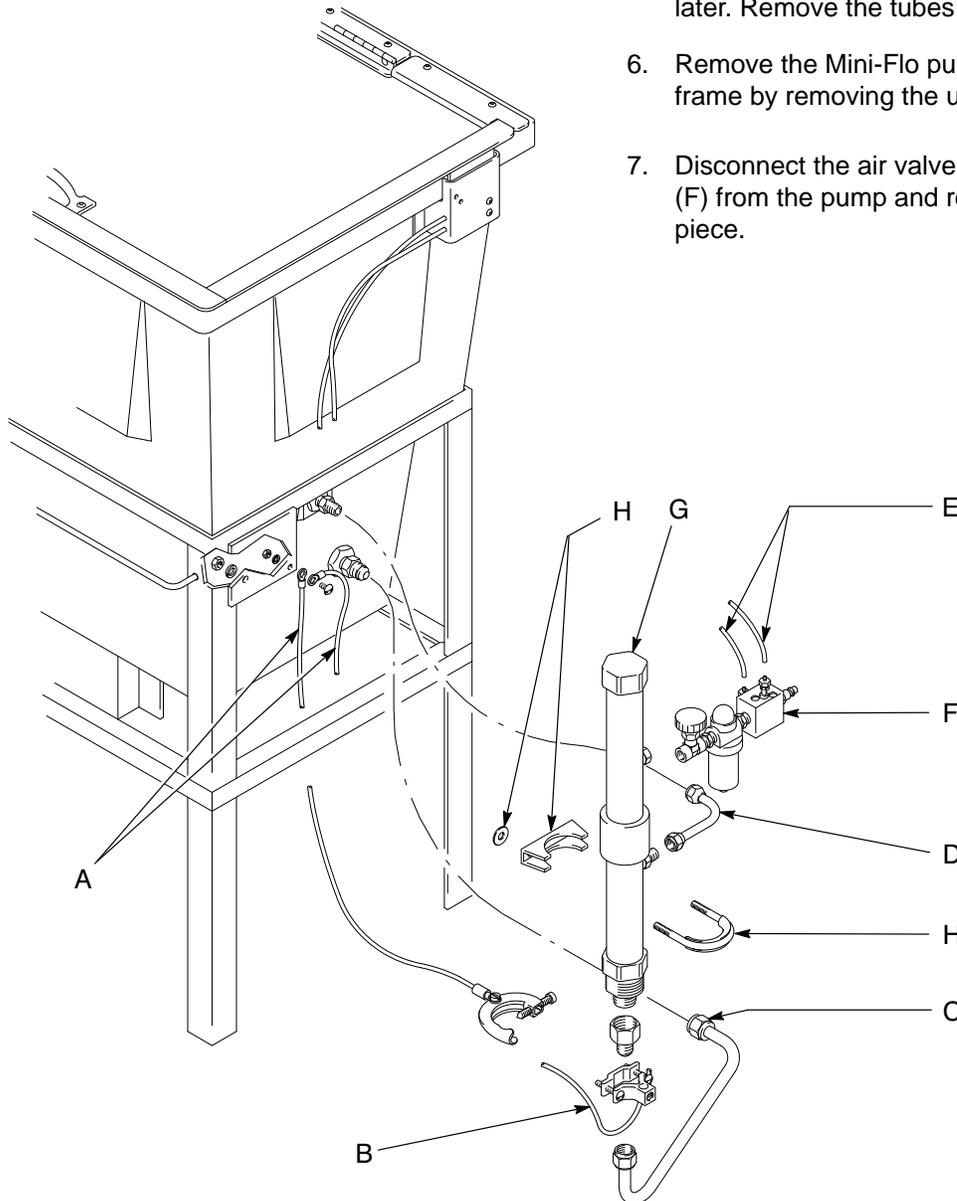

Fig. 2
NOTE: Model 110–484 Gun Washer is shown in Fig. 2. Follow the same procedure for Model 110–820.
2. Disconnect both ground wires (A) from the washer frame. Retain the ground wire and fasteners. See Fig. 2.
3. Disconnect the grounding clamp (B) from the pump fluid inlet. Retain the fasteners and grounding assembly.
4. Disconnect the fluid inlet (C) and outlet tubes (D) from the side of the tank.
5. Label each tube (E) with tape as to where it attaches to the air manifold (F) for reconnection later. Remove the tubes from the air manifold.
6. Remove the Mini-Flo pump (G) from the washer frame by removing the u-bolt and bracket (H).
7. Disconnect the air valve, lubricator, and manifold (F) from the pump and retain in one assembled piece.